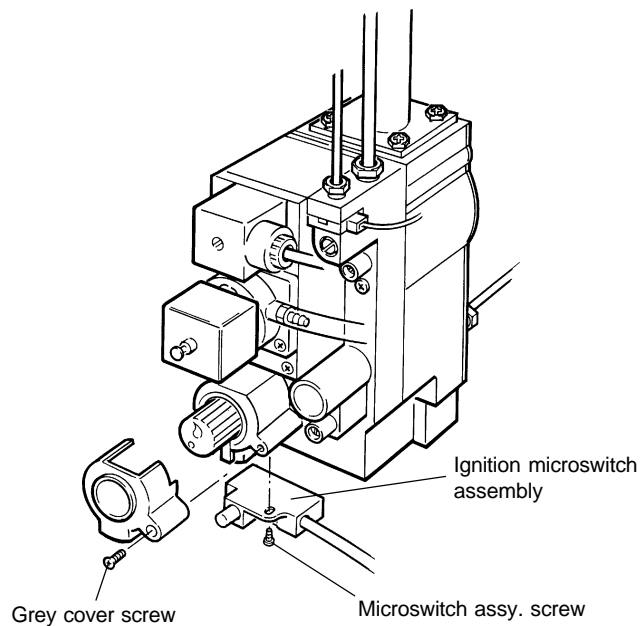

Fig. 26
8.15 IGNITION MICROSWITCH ASSEMBLY (Alpha 240XP only) - Fig. 26